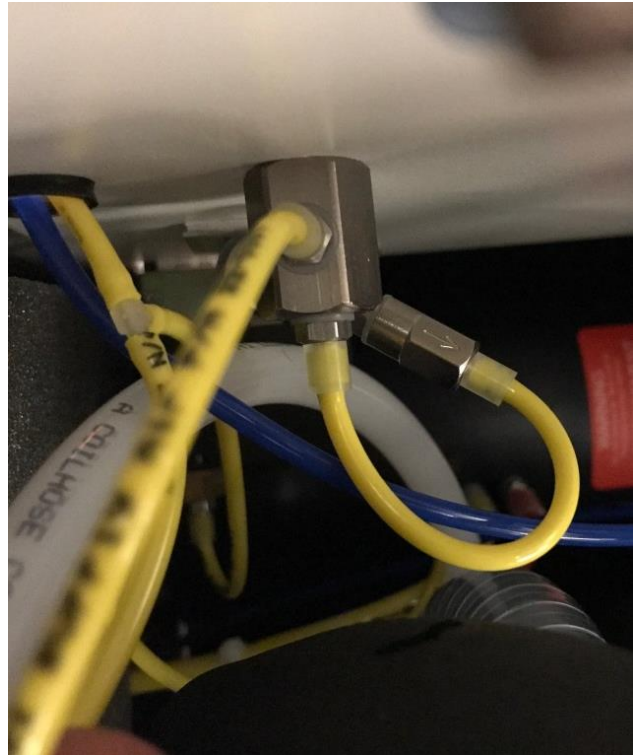

Fig. 3
7. Remove Check valve from the water system supply air tubing, indicated in **Fig. 3**